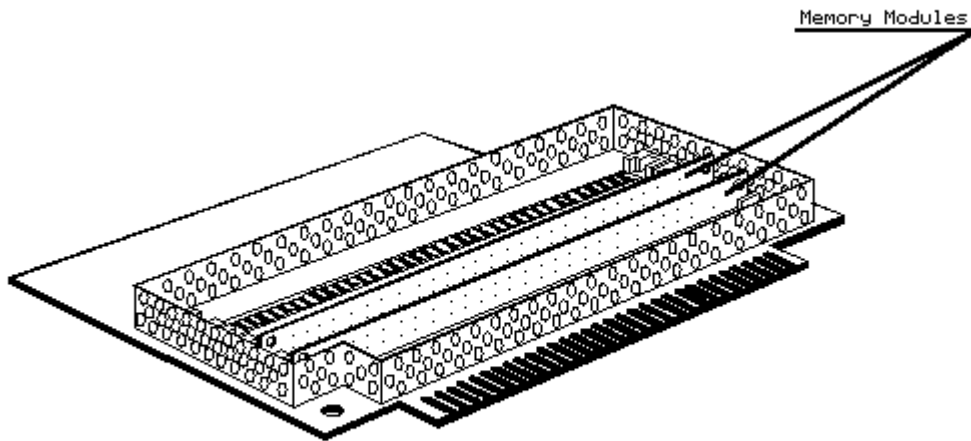

Figure 8-27. Memory Module Location
5. Locate the memory module that is to be replaced (Figure 8-27).